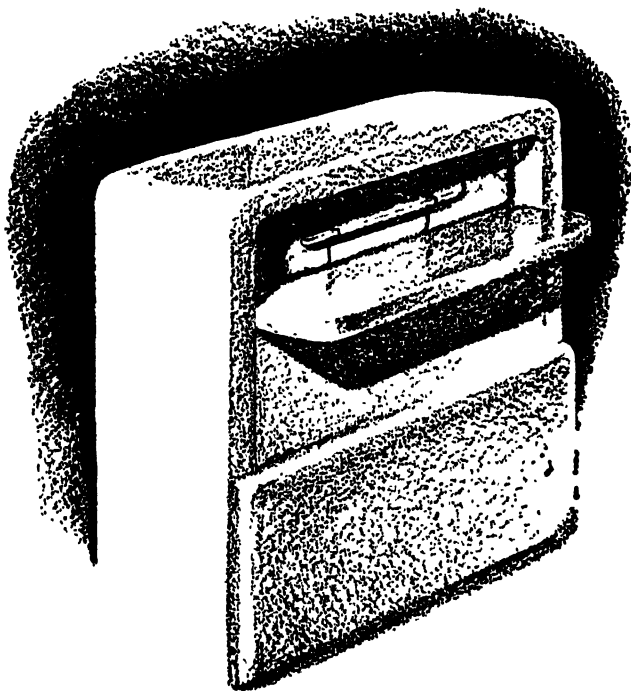

FIG. 9.
*Must* refrigerators be so deep from front to back? *Must* they have doors that swing open, thus adding to the space required in kitchen or pantry and allowing all the cold air to spill down towards the floor? Try rearranging the cubic space inside by flattening the whole thing against the wall. It would be wider, of course, but it wouldn't jut out into the room so far. Then try a sliding door, as in Fig. 9, one that moves up and down. It could be counterweighted, running in tracks at the side. To open it you would release a latch at the top and a segment of the door